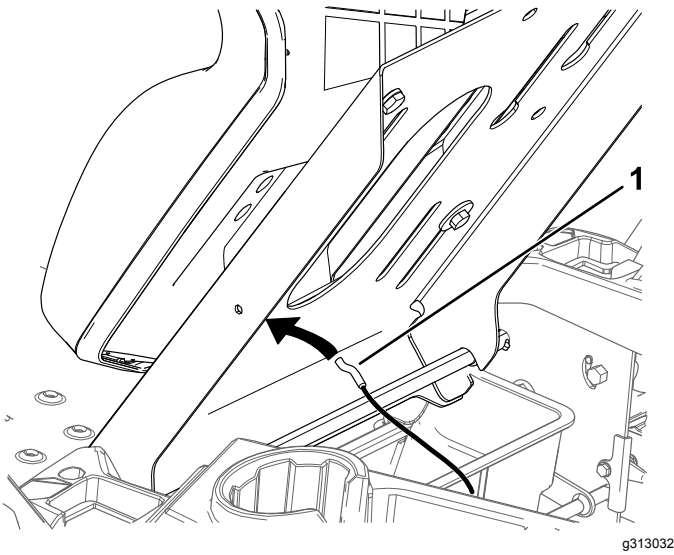

Figure 8
7. Attach the seat-tilt cable from inside the seat pan (Figure 8).